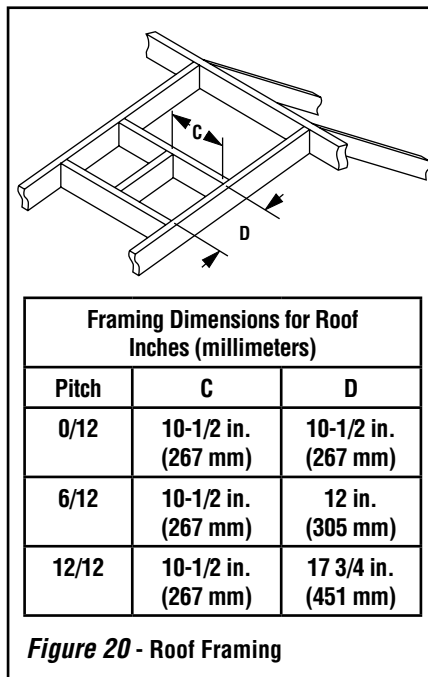

Figure 20 - Roof Framing
H. Frame roof opening - Identify location for vent at the roof. Cut and/or frame opening per Roof Framing Chart (**Figure 20**).